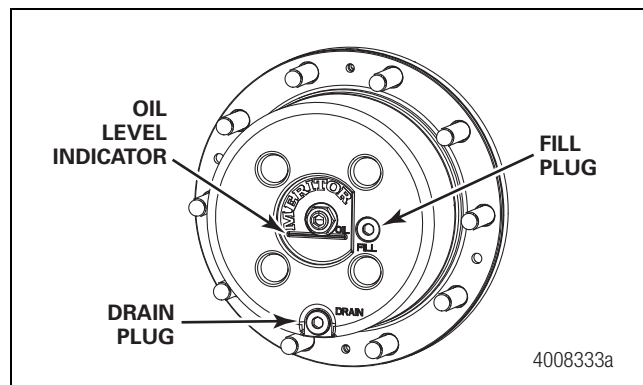

Figure 5.1
5. Place a drain pan under the hub drain plug. Rotate the wheel end so the drain plug is at its lowest position. Remove the drain plug and allow the hub oil to drain completely from the wheel end. Figure 5.1.